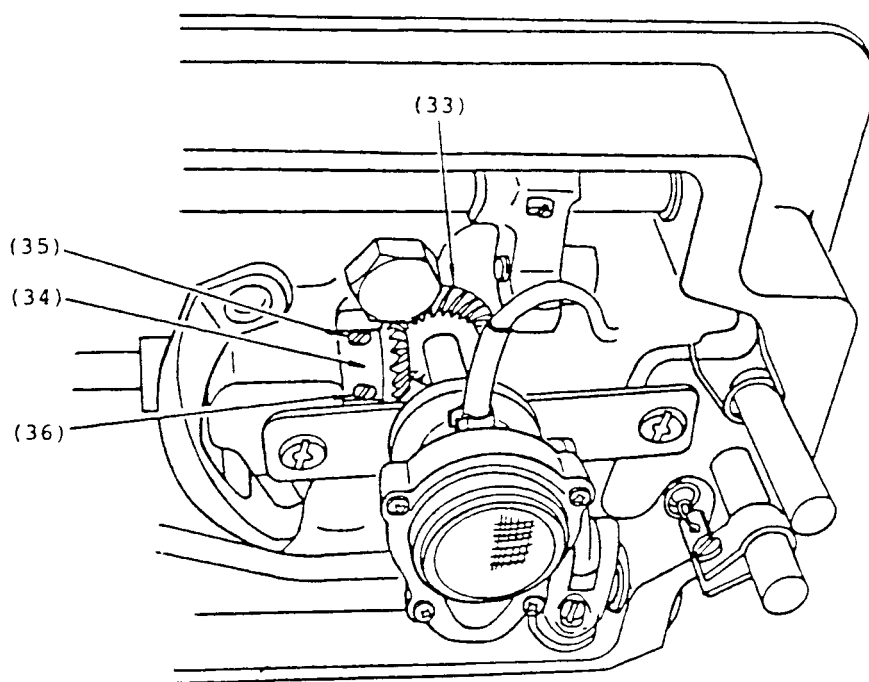

Fig. 19
2. Mark the two lower bevel gears (33) and (34), Fig. 19, with chalk or crayon, on one tooth of one gear and the corresponding space for that tooth in the other gear. This is important, as these gears may become separated during removal of shaft. These marks will then make it possible to obtain the original mating position of the gears.
3. Loosen the two set screws (35) and (36) in hook shaft bevel gear. While holding the two gears (33) and (34) in mesh, as instructed in Fig. 19, withdraw the old hook shaft and INSERT THE NEW SHAFT.
5. Make certain that set screw (35) seats over flat on the hook shaft. Remove all end shake from hook shaft, pushing gear (34), Fig. 19, toward the hook on the shaft. Securely tighten first set screw (35), then securely tighten the second screw (36).
2. Follow the instructions in Steps 2 and 3 for removal of hook shaft on page 11 except that, instead of removing hook shaft, merely remove hook shaft bevel gear (33), Fig. 19.
4. Mark the two bevel gears (46), with chalk or crayon on one tooth of one gear and the corresponding space between the teeth of the other gear so that these gears may be re-assembled in their original relative positions without difficulty, if necessary.
5. Loosen set screws (47) in bevel gear at upper end of upright arm shaft. To loosen set screws (47), remove screw (48) in the rear of the arm and insert screwdriver through the hole.
6. While holding upper bevel gears (46) in mesh, draw upright arm shaft (45) down and out of machine.
1. Before installing upright arm shaft, make certain it has the bevel gear (33), Fig. 19, correctly fastened at the lower end of shaft.